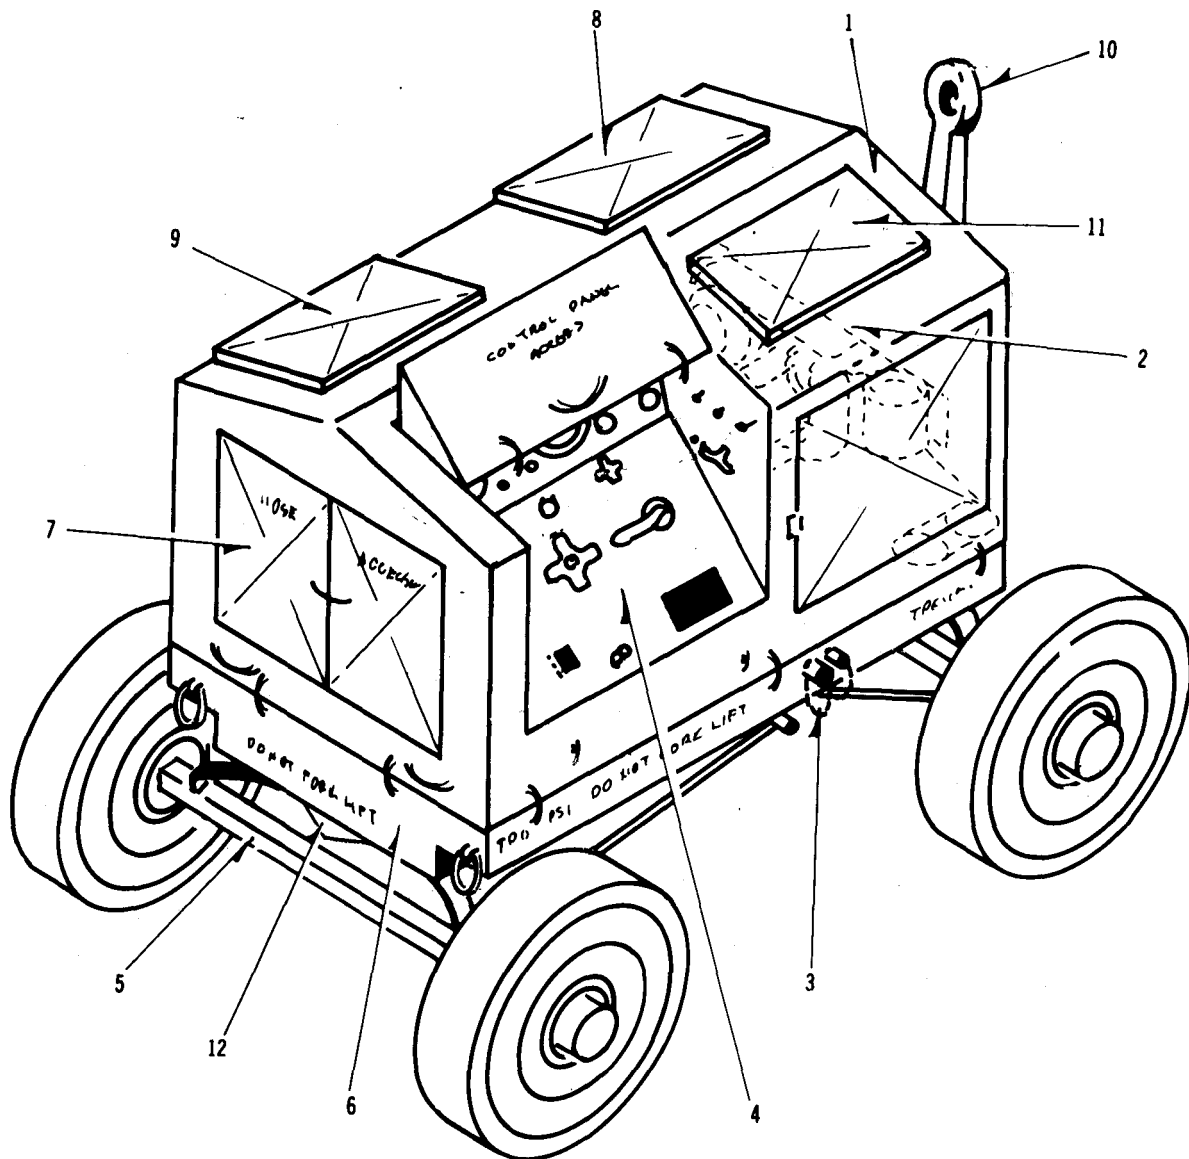

Figure 4-1. Hydraulic Test Stand, D-5C
a. Remove housing assembly (1, fig. 4-1).
g. Replace housing assembly (1, fig. 4-1).